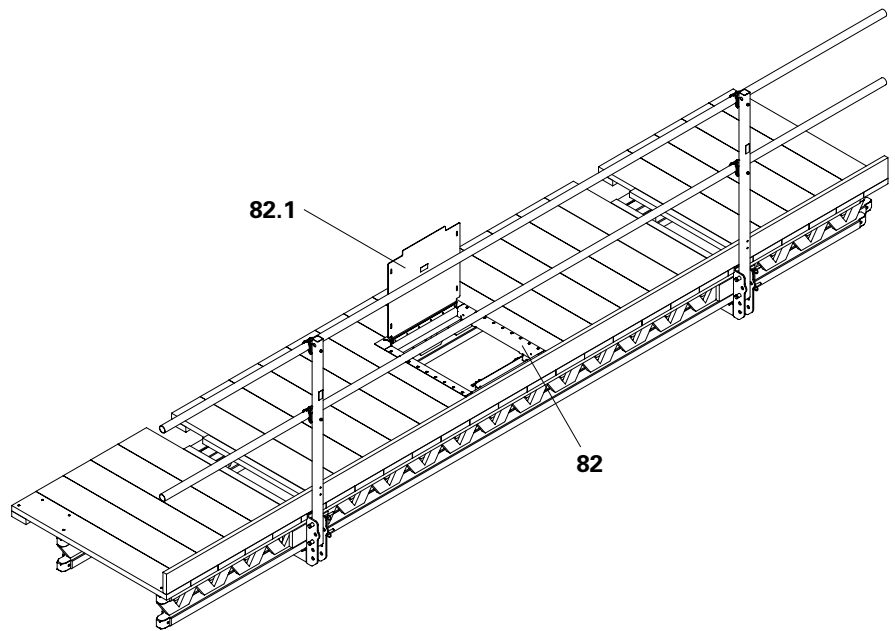

Fig. B5.04a
1. Place Hatch RCS 55 x 60-2, foldable (**82**) in the prepared recess. The opened hatch cover (**82.1**) points towards the wall side. (Fig. B5.04a)